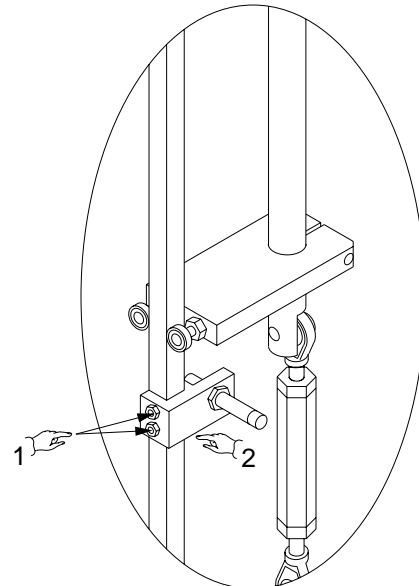

Fig. 6.12a
- anticipation or delay of the action of the vacuum, by adjusting the position of the proximity sensor (*Pos. 1, Fig. 6.12a*);